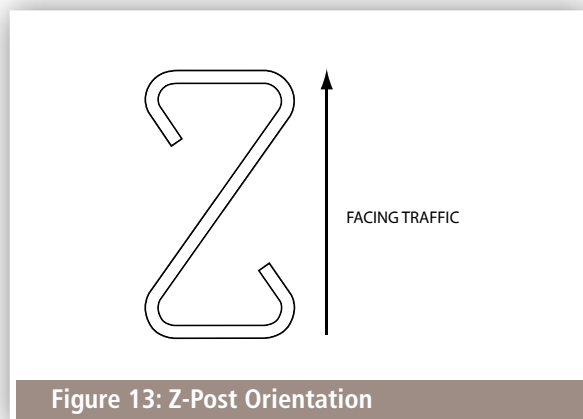

Figure 13: Z-Post Orientation
3. The post lugs are to be at the top of the post and facing the traffic as per Figure 13 and 14.